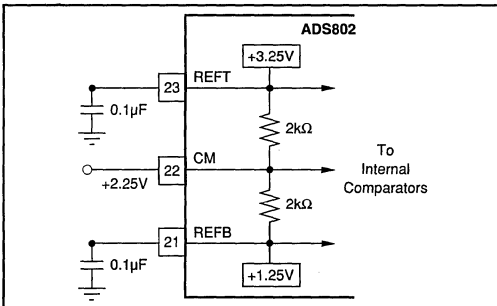

FIGURE 3. Internal Reference Structure.
The analog input of the ADS802 can be configured in various ways and driven with different circuits, depending on the nature of the signal and the level of performance desired. The ADS802 has an internal reference that sets the full scale input range of the A/D. The differential input range has each input centered around the common-mode of +2.25V, with each of the two inputs having a full scale range of +1.25V to +3.25V. Since each input is 2V peak-to-peak and 180° out of phase with the other, a 4V differential input signal to the quantizer results. As shown in Figure 3, the positive full scale (REFT) and the negative full scale (REFB) are brought out for external bypassing. In addition, the common-mode voltage (CM) may be used as a reference to provide the appropriate offset for the driving circuitry. However, care must be taken not to appreciably load this reference node. For more information regarding external references, single-ended input, and ADS802 drive circuits, refer to the applications section.